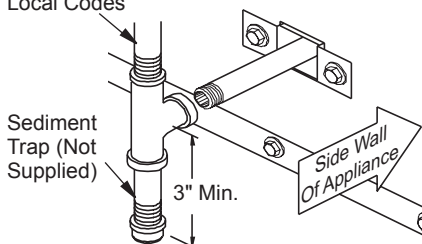

Figure 39 - Sediment Trap
Route a 1/2" NPT black iron gas line towards the appliance coming in from the left. It is recommended to route the pipe between the stand of the firebox and the surround of the fireplace (see Figure 39, page 22).
1. Install a sediment trap between the incoming gas line and the gas control valve (see Figure 39). The sediment trap should extend down the center of the pipe. Refer to your local codes.